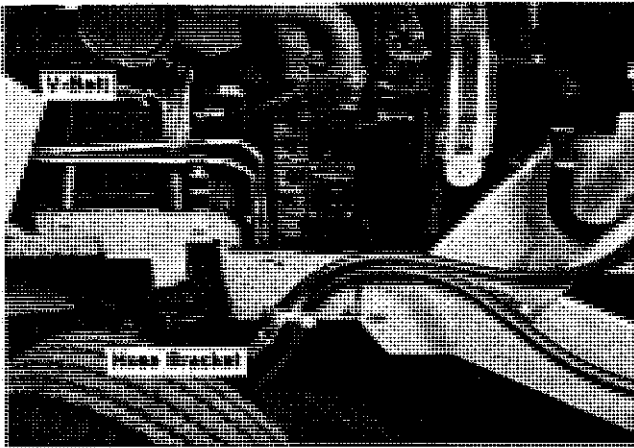

FIGURE 4
Once in place insert bolts and install lock washers and nuts previously removed from the pump assembly and tighten securely. Re-install the ground wires and springs holding the battery cover. Loosen the 3/8" x 2" belt tightener so that the pump mounting plate will have freedom of movement up and down and then from the top install the V-belt, P/N 23092 over the tractor P.T.O. pulley and then install V-belt on the pump pulley. Figure 4.
Install Hose Bracket and Bushing P/N 24056 a. P/N 24057 as shown in Figure 4 with one (1) 1/2" x 2" bolt and LW.